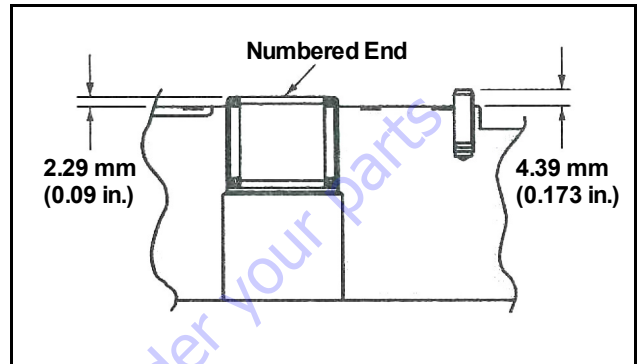

Figure 5-120. Endcover Inspection
- Check the bearing (press fit) in endcover. If needles remain in cage, move freely, and setting is at the dimension shown in Figure 5-120. removal not required.
- Check roll pin in endcover. If tight and set to the dimension shown in Figure 5-120. removal not required.